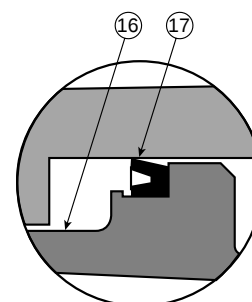

FIGURE 3: Enlarged View of Piston & Lip Seal
9. Apply a light film of grease to piston bores and all surfaces of piston seals. Install seals onto piston with the lips of the seals facing away from the support flange. See Figure 3.
10. Install the piston (16) & lip seal (17) subassembly into its operator bore, taking care to assure that the lips of the seal pass smoothly into the bore.